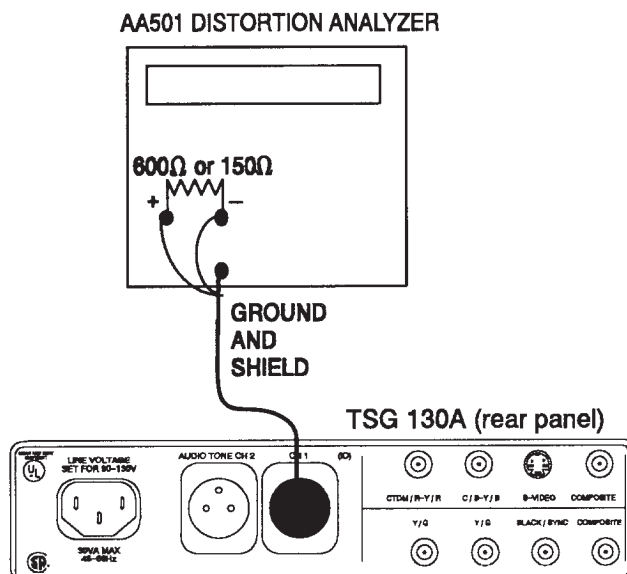

Figure 5–6: Setup to measure total harmonic distortion
- a. Connect the equipment as shown in Figure 5–3.
- b. Connect the equipment as shown in Figure 5–6, placing a 600  $\Omega$  resistor across the analyzer's + and – terminals (to represent the system load).
- a. Connect the equipment as shown in Figure 5–8.